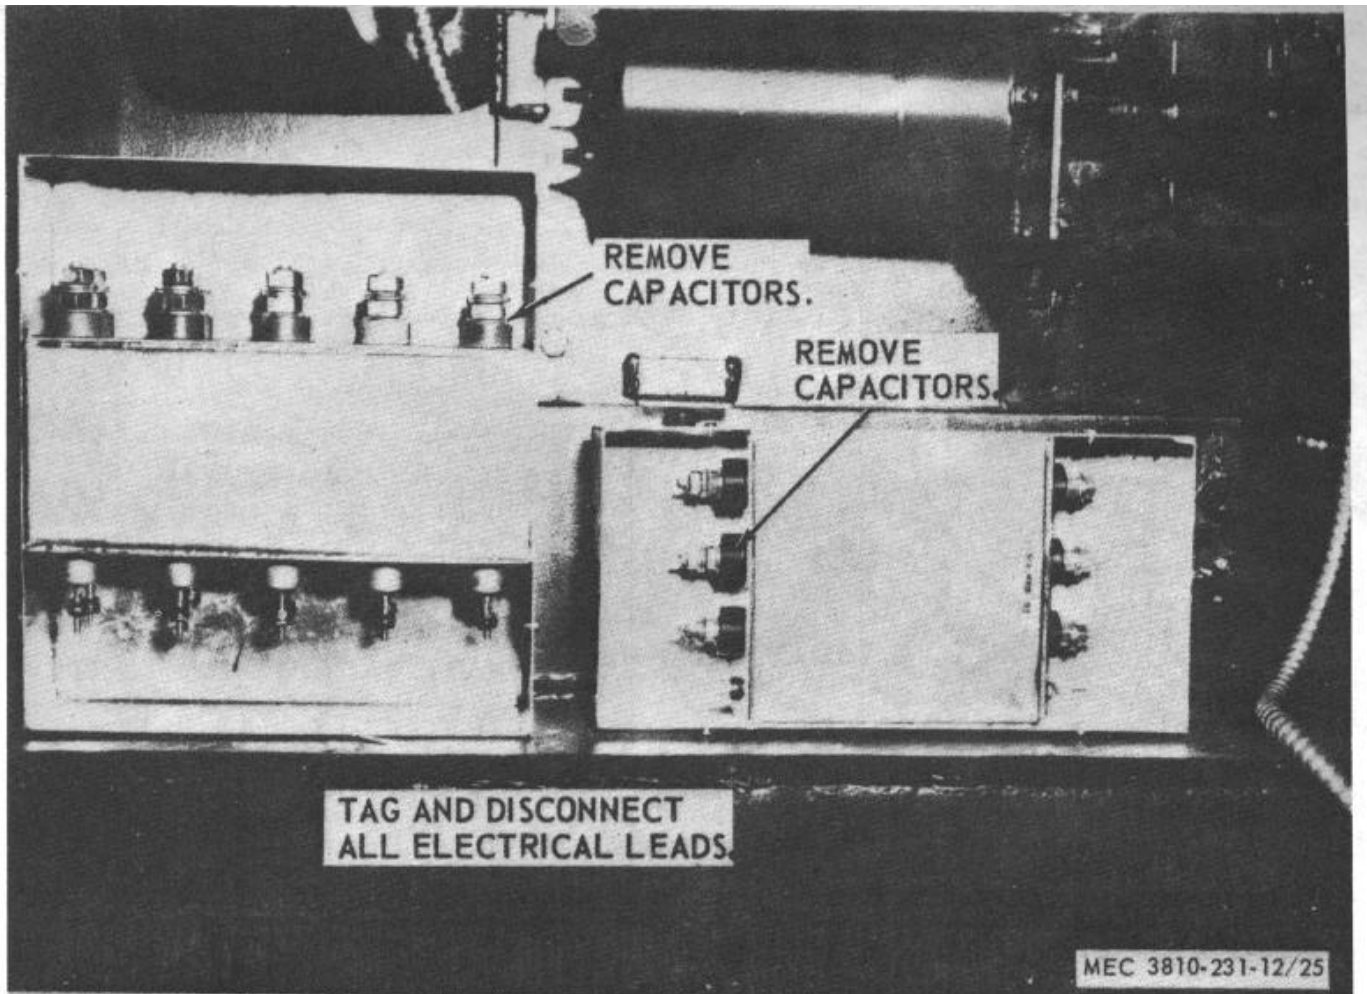

Figure 25. Interference suppression components, location, removal and installation.
a. Primary Suppression Components. The primary suppression components are those whose primary function is to suppress radio interference. These components are described and located in figure 25.
Refer to figure 25 and replace the radio interference suppression components.